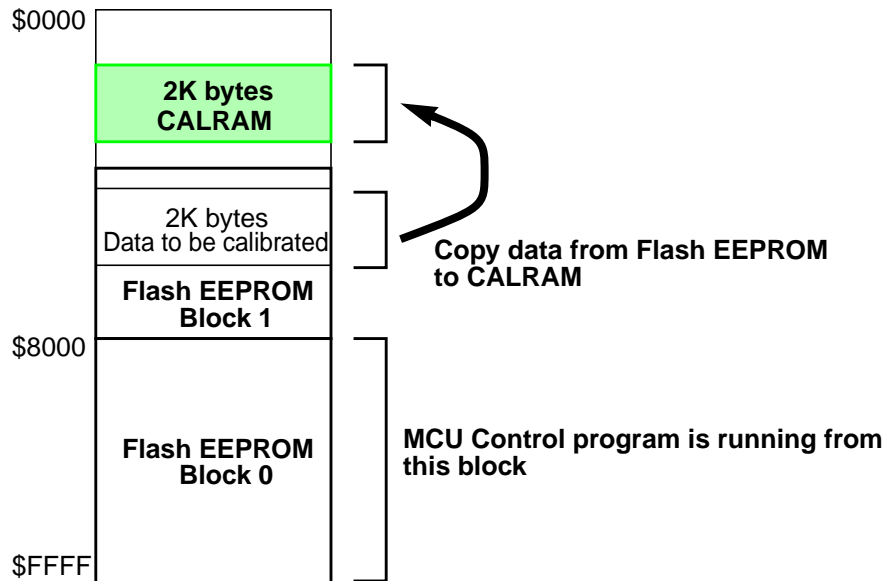

Figure 33 Copy Data from Flash EEPROM to CALRAM
1. Copy a 2K byte block of data from the Flash EEPROM into the 2K byte CALRAM array. Figure 33 shows an example. This is the first step for calibration, but this step may be skipped when initialization for calibration block is not needed.